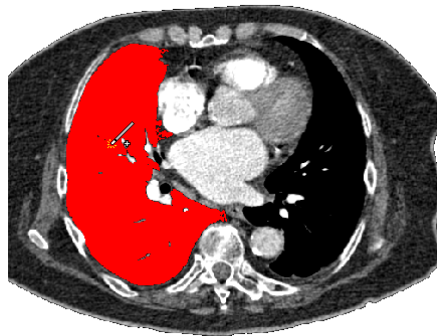

Figure 252 – Defining an area using the Magic wand drawing tool
7. Press and hold down the left mouse button to define the starting point, and from there drag the cursor to demarcate the area what you want to define. The further you drag the cursor away from the starting point, the wider the color range will be (see Figure 252).